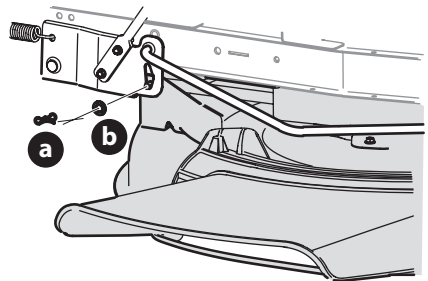

Figure 30
3. Remove the bow-tie cotter pin (a) and flat washer (b) from the deck lift assembly and retain for reinstallation later (Figure 30).